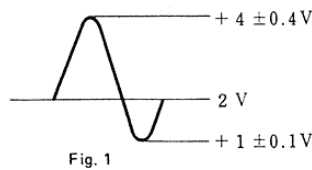

Fig. 1
- a. Set the MOD-VCO2 (PVR4) to 10. Then, when the C₆ key is switched ON (KV terminal; 2 ± 0.001 V) adjust (VR 6) at TP1 for a value according to Fig. 1. Now, when the C₃ key is switched ON (KV terminal; $+250 \pm 0.1$ mV), adjust (VR 5) according to Fig. 2. Repeat these adjustments, making sure there is no deviation in the adjusted value, even during switching.